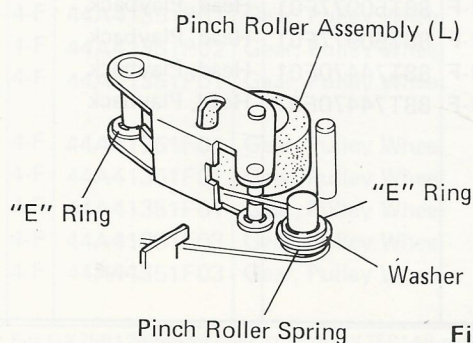

Figure 3
- (1) Remove the eject lever assembly.
- (2) Remove the pinch roller spring and two "E" rings and one washer to remove the pinch roller assembly as shown in Figure 3.
- (3) After replacing the pinch roller assembly with a new one, clean the pinch roller with absolute alcohol and assemble it in the opposite way to disassembly.
- (4) After assembling, confirm the tape speed and the wow/flutter with the fast tape (MTT-111).
- (5) The pinch roller assembly (R) can also be removed in same way.